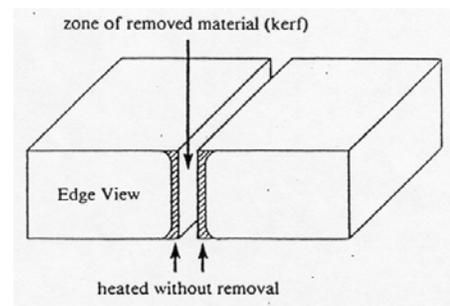

Figure 2. Heat Affected Zone
1. **Heat-affected Zone.** This zone refers to the material (as small as .001") which surrounds the laser-heated material. Depending on the type of material processed, this heat-affected zone by exhibit charring, hardening or flame polishing. (See Figure 2.)